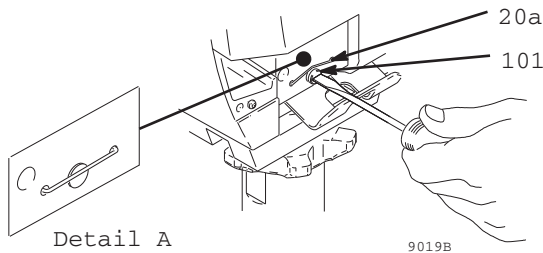

FIG. 24
4. Remove suction tube (30) and hose (33).
5. Use screwdriver to push out pump pin (101) (FIG. 24).
2. See Detail A (FIG. 24). Push pin (101) into hole until retaining clip (20a) snaps over pin.